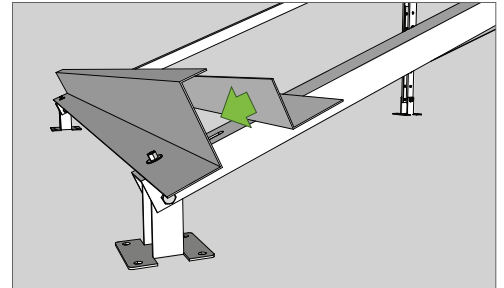

Fig 5
6. Place the bottom L-support rail flush within Z-frame support ensuring tight fit (Fig 5).